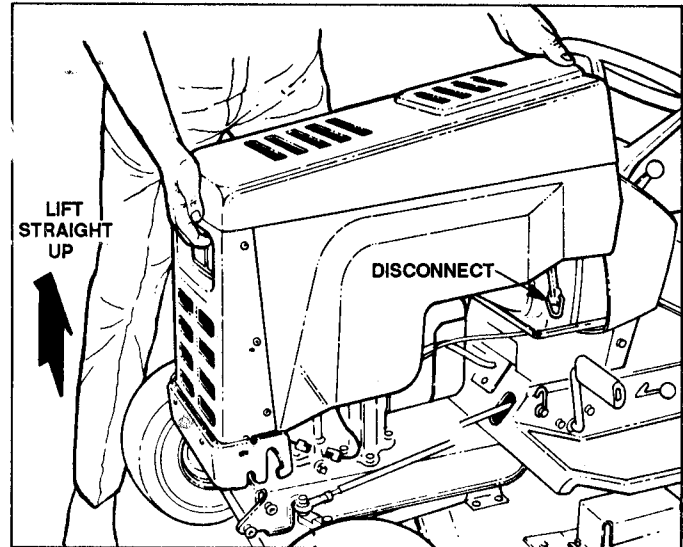

FIGURE 29
3. With hood level, lift straight up to clear pivot pins at front front. See Figure 29.